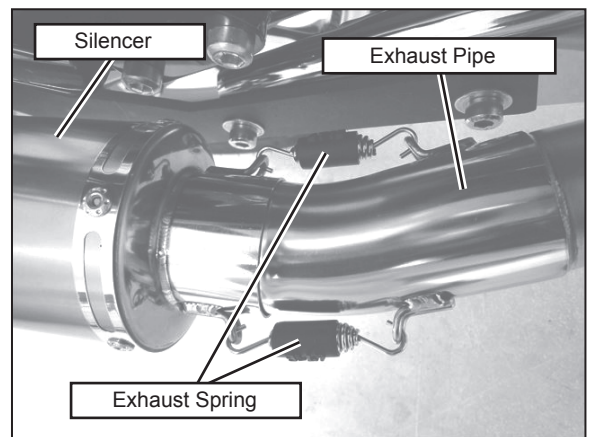

FIG. 8
7) Install Exhaust Spring onto each spring hook on Exhaust Pipe and Silencer Assy (See Fig. 8).